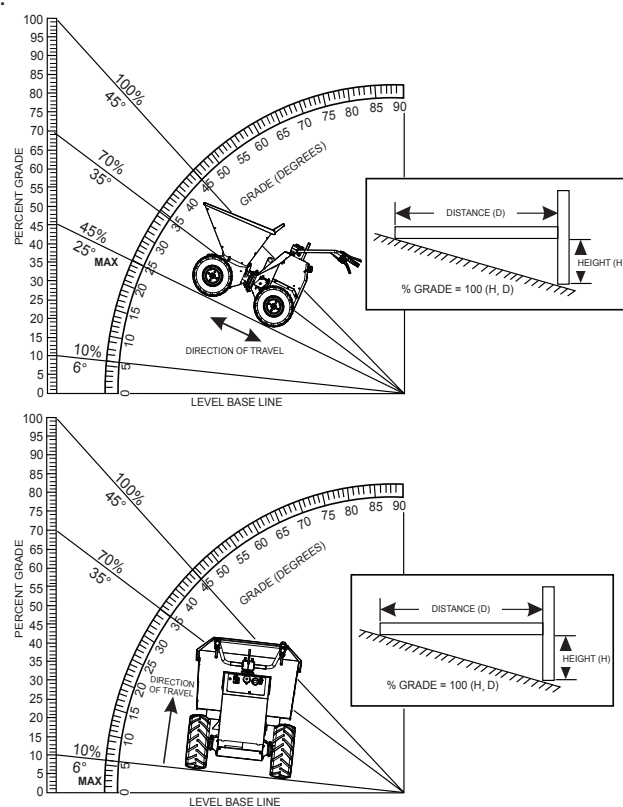

Figure 12. Determining Grade of Slope
1. When traveling on a slope, it is necessary to determine the grade of the path. The EB500 Mini Dumper can travel up or down slopes not exceeding 25° (Figure 12). **DO NOT** travel on steeper slopes.
To determine the % grade of your path of travel, use the formula and graph in Figure 12.